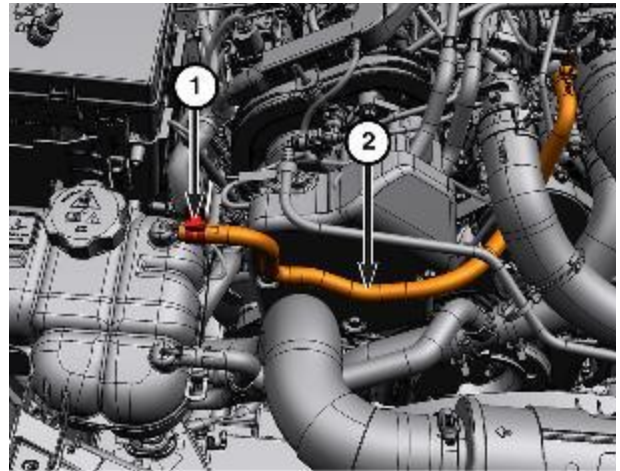

Figure 2 – Degas Hose
5. Release the hose clamp (1) and set the degas hose (2) aside (Figure 2).